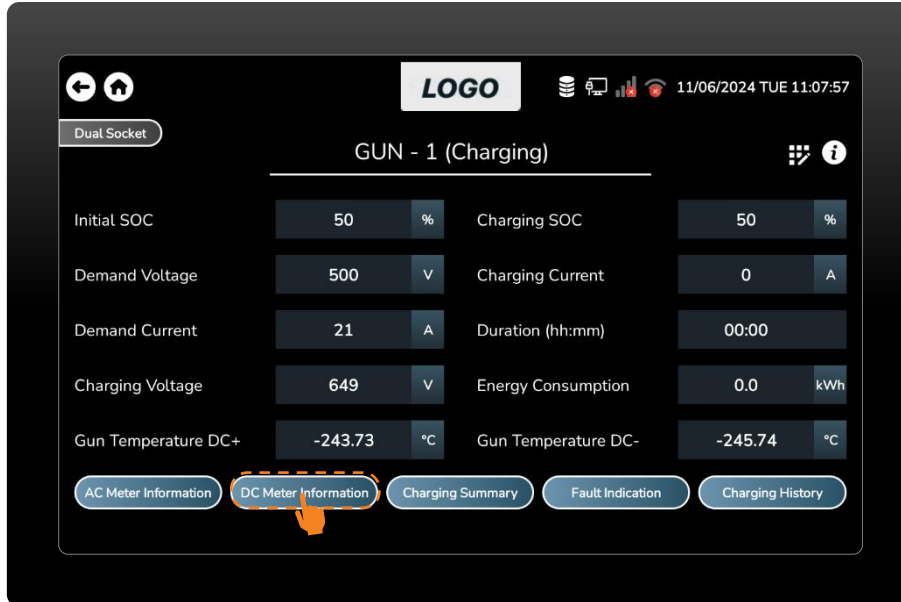

Figure 66 Press the DC Meter Information Button.
- To get information about the DC meter, press the DC meter information button. (Figure 66)